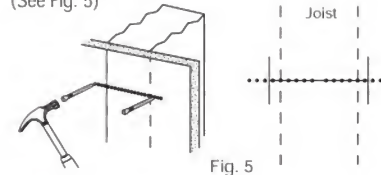

Fig. 5
2.2-Locate the two Joist Locating Probes. You will use these to find the center of the joist. Moving along the horizontal line, use a hammer with the probe, to tap holes through the ceiling. Alternating at each side, tap holes along the horizontal pencil line with spacing that is no more than 1/16" increments, until you have located the outside edge of the joist on both sides. (See Fig. 5)